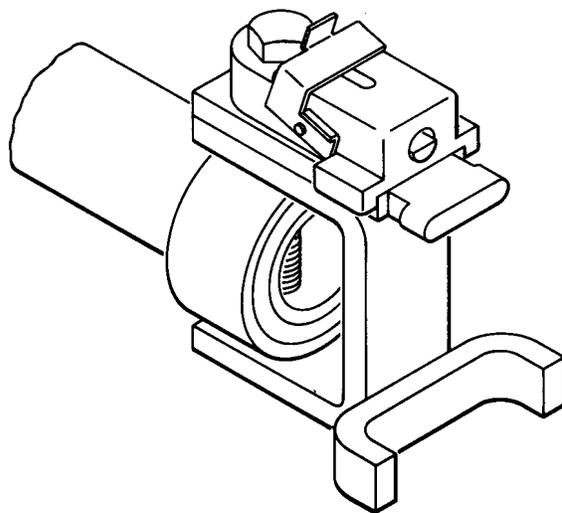

Fig. 2—Spring Safety Latch Assembly with Bolt in Retracted Position
2.02 The spring safety latch assembly (Fig. 2) has a sliding cover positioned over the body of the latch. This cover fastened to the locking bolt permits retraction of the latch bolt, and rotation of the cover to a position behind the ears of the body (Fig. 2) holds the bolt in its retracted position. Pressure on the top of the cover releases the bolt to its extended (locking) position.